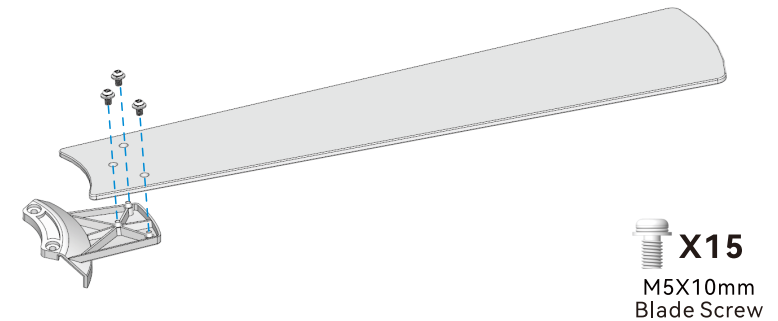

Fig. 1.1
1.1 Locate the blade attachment screws included in the hardware pack. Use these screws to firmly attach each blade to the blade bracket, as demonstrated in Fig. 1.1.